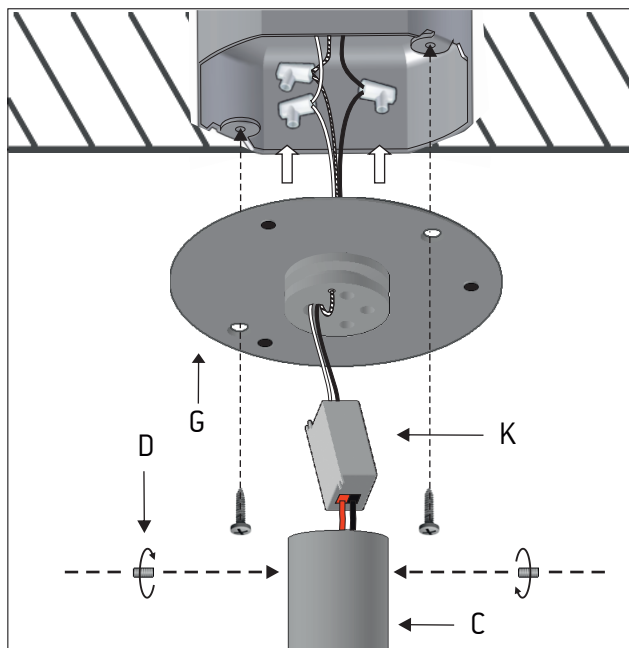

Figure 8B
Make the electrical connections and leave the driver (K) inside the lamp's body (C). Attach the mounting bracket (G) to the junction box. Screw the studs (D) back to the body of the lamp (B) to secure it to the mounting bracket (F). Figure 8B.